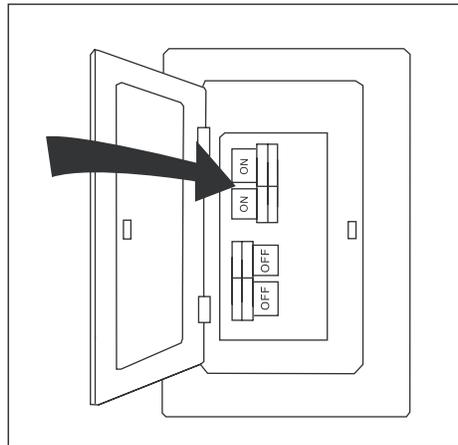

Figure 5.11
11. Turn ON the electrical power at the main fuse or circuit breaker and the wall switch. Assembly is complete (Figure 5.11).